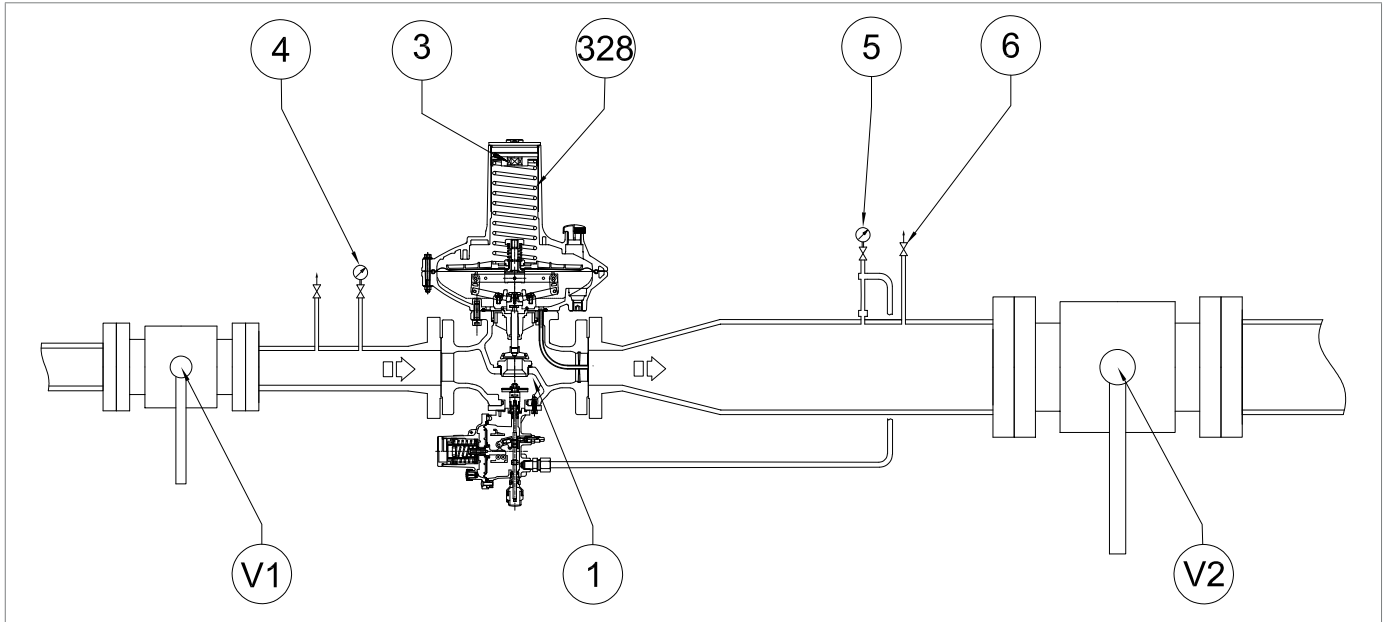

Fig. 8.20. Commissioning of the regulator DIVAL 700 with LA slam-shut valve
For the following procedure, please refer to Fig. 8.20 at “8.7.1 - Internal tightness check of LA slam-shut valve”:
2	<p>Check that the LA slam-shut valve is in the shut-off position.</p> <p>! NOTICE!  If the LA slam-shut valve is in the open position, close it using the manual button (fig. 8.20, ref. 10).</p>
4	<p>If the slam-shut valve:</p> <ul style="list-style-type: none"> <li>trips before the expected pressure value, unscrew (anticlockwise) the adjustment ring nut (fig. 8.20, ref. 15), to relieve the spring (fig. 8.20, ref. 17);</li> <li>does not trip at the expected pressure value, screw in (clockwise) the adjustment ring nut (fig. 8.20, ref. 15) to further compress the spring (fig. 8.20, ref. 17).</li> </ul>
6	Open the slam-shut valve by acting on the reset knob (fig. 8.20, ref. 16) and keep it open manually.
8	Set the slam-shut valve by acting on the reset knob (fig. 8.20, ref. 16).
2	Check that the LA slam-shut valve is in the shut-off position. NOTICE! If the LA slam-shut valve is in the open position, close it using the manual button (fig. 8.20, ref. 10).